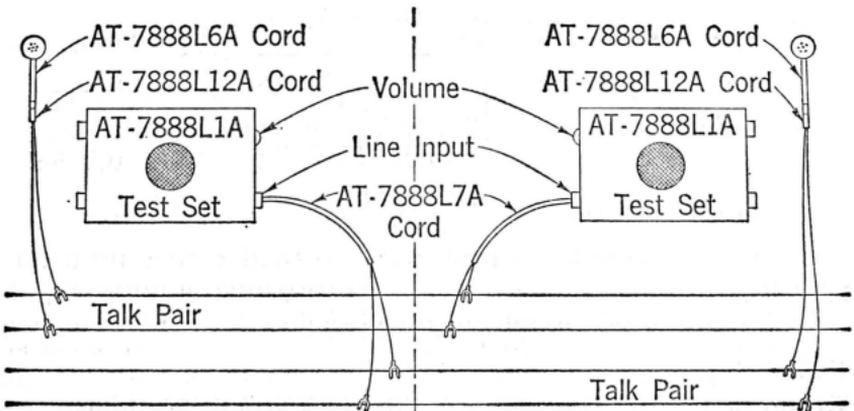

Fig. 8
4.07 **Four-Wire Talking Circuit:** The method of using and the cords required for talking over two cable pairs (four wires) are shown in Fig. 8. This circuitry extends the range of voice transmission by reducing feedback. The volume controls are set as for two-wire operation.